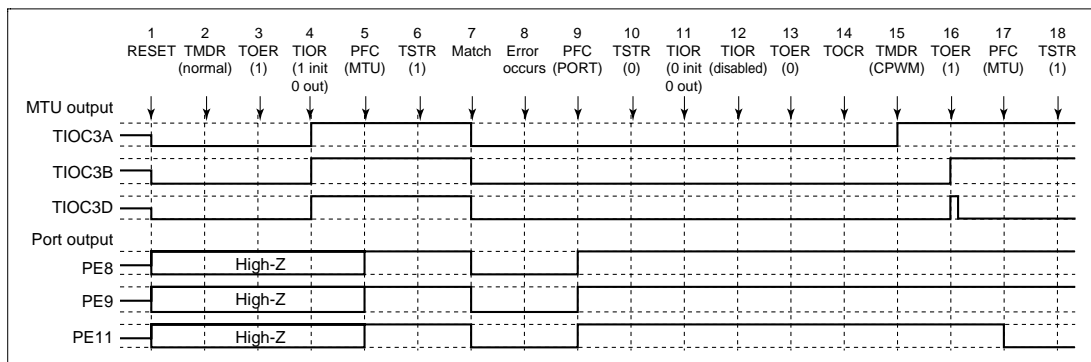

Figure 12.101 Error Occurrence in Normal Mode, Recovery in Reset-Synchronous PWM Mode
(6) Operation when Error Occurs during Normal Mode Operation, and Operation is Restarted in Reset-Synchronous PWM Mode: Figure 12.101 shows an explanatory diagram of the case where an error occurs in normal mode and operation is restarted in reset-synchronous PWM mode after re-setting.